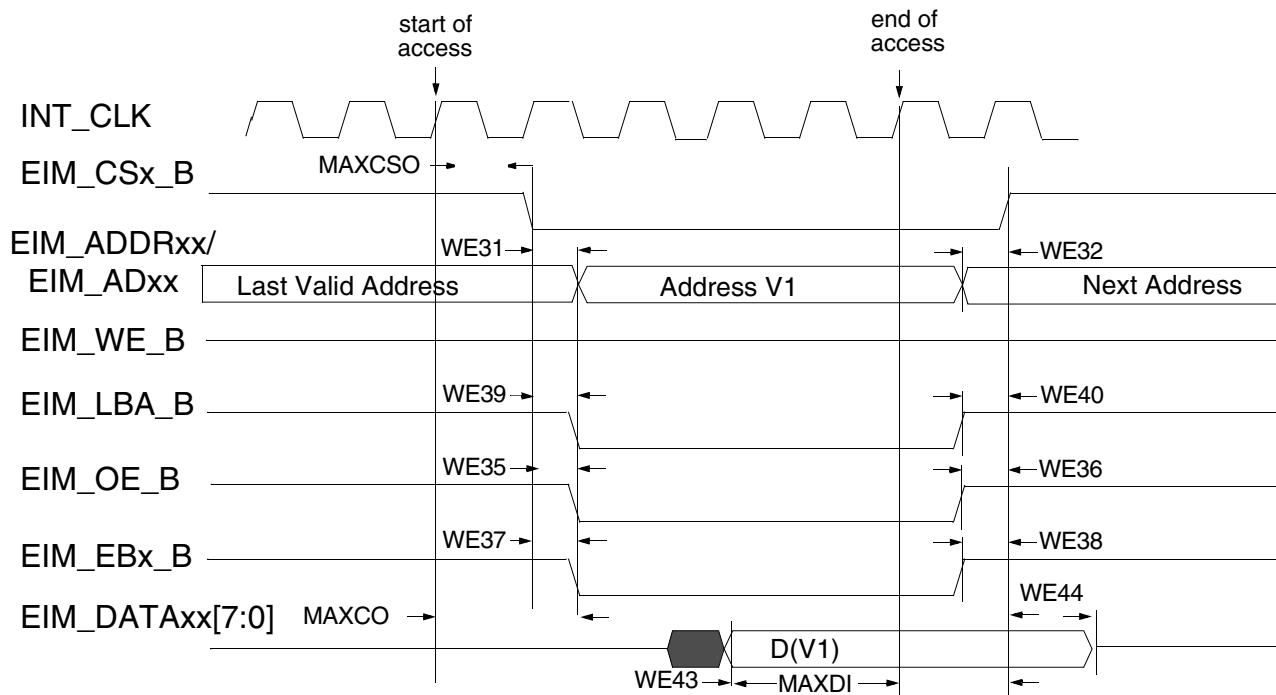
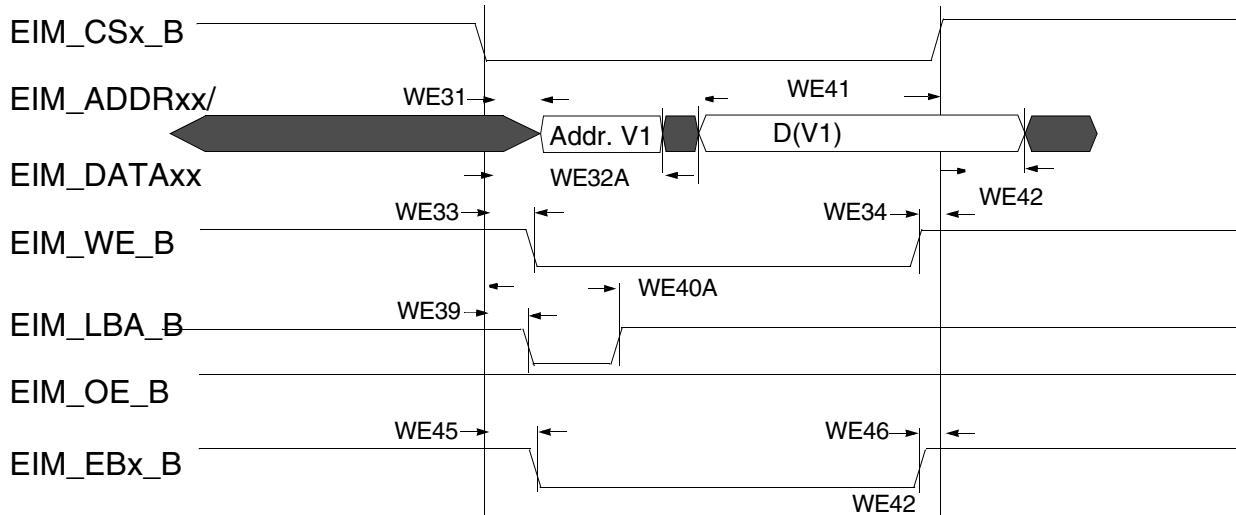
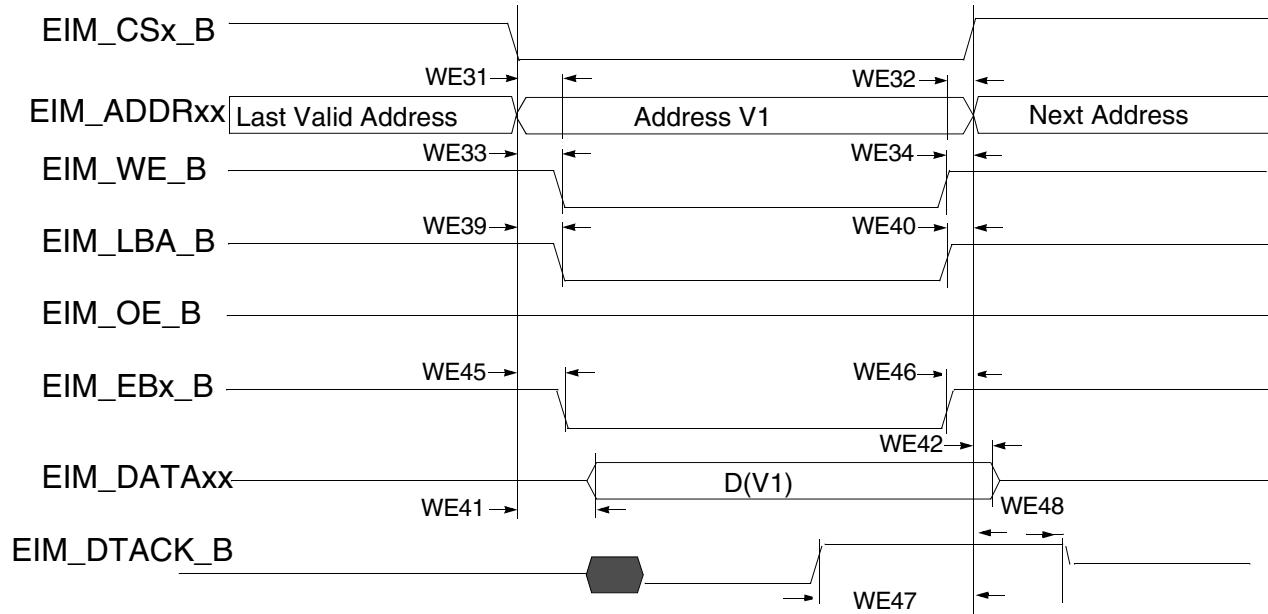

Figure 16. Asynchronous Memory Read Access (RWSC = 5)
Figure 19. Asynchronous A/D Muxed Write Access
Figure 21. DTACK Mode Write Access (DAP=0)
Figure 16 through Figure 21, and Table 46 help you determine timing parameters relative to the chip select (CS) state for asynchronous and DTACK EIM accesses with corresponding EIM bit fields and the timing parameters mentioned above.
Asynchronous read & write access length in cycles may vary from what is shown in Figure 16 through Figure 19 as RWSC, OEN and CSN is configured differently. See the i.MX 6SoloX Applications Processor Reference Manual \(IMX6SXRM\) for the EIM programming model.